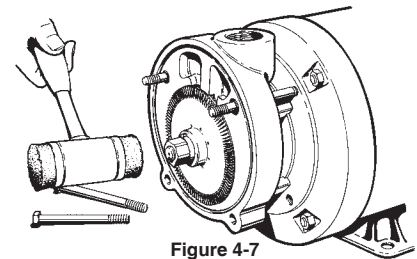

Figure 4-7
2. Remove the two (2) 3/8" nuts (#20), and the two (2) 3/8" X 4" bolts (#19) from the cover. (#2)
4. Remove the impeller (#11), refer to Figure 4-7. The impeller is a slip fit and, under normal conditions, can be removed by gently tapping on the end of the shaft sleeve with a mallet. Leave the impeller key (#23) in place. Strik-